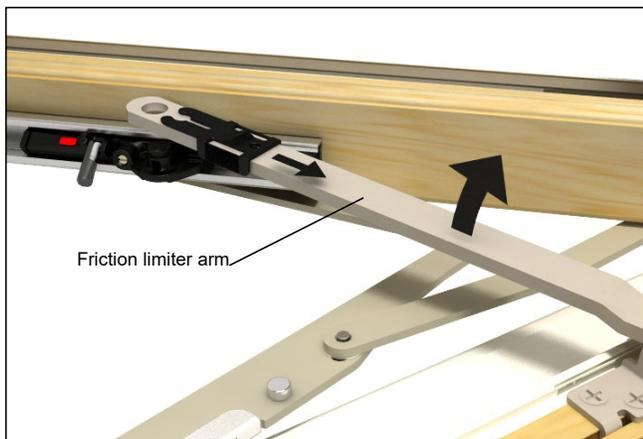

Figure 4
1. To place sash in wash mode, disconnect friction limiter arm from the sash and push it back under the hardware cover. See figure 4.